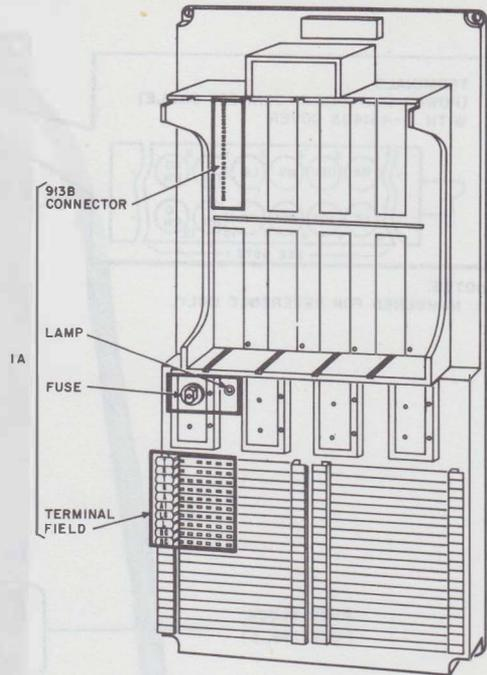

Fig. 2—620A or 620A2 Modular Panel, Typical Connector, Fuse, Lamp and Terminal Field Relationship
B. 620A (MD) Modular Panel
- Two terminal fields (red) divided into quadrants and wired to similarly positioned connectors (see Fig. 2) which offer KTU services independent of each other.